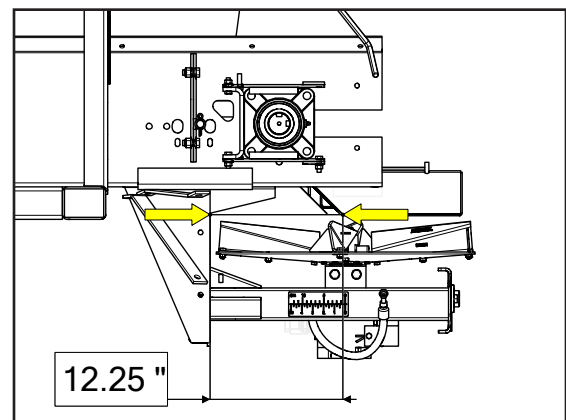

Figure 6
7. Figure 6 - Measure on each side from Spinner Frame back plate to forward drop-off point on Material Divider. Both measurements must be 12-1/4" (31cm) or no greater than 1/8" (0.3cm) off overall.